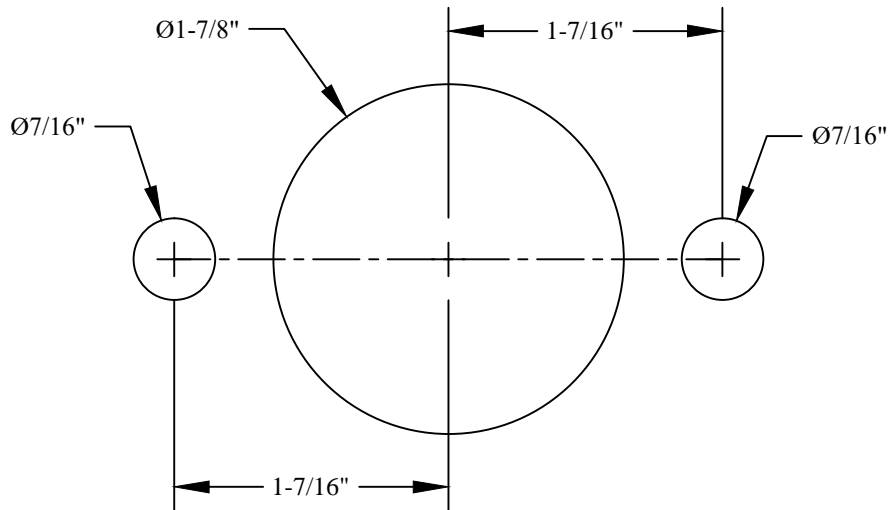

Figure 7: Power socket mounting hole dimensions.
4. **Check** for obstructions and **Drill** three holes in the front of the trailer at the location previously marked (Figure 7).